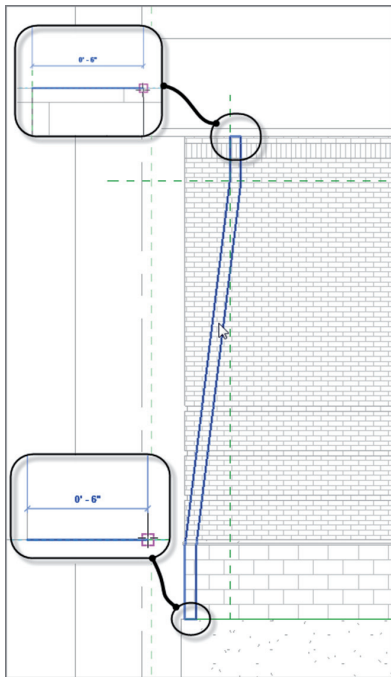

FIGURE BC1.45: Closing the loop
15. Draw a line at the top and the bottom, closing the loop. See Figure BC1.45. Pick Modify.